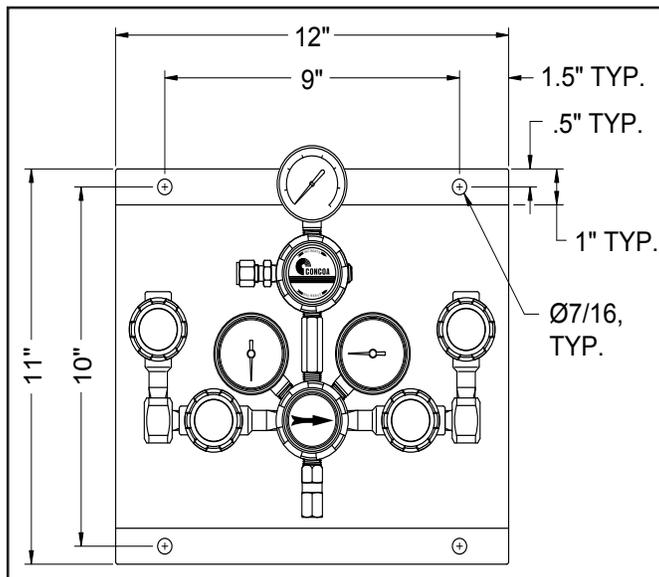

Figure 3
- As illustrated in Figure 3, the 619 is secured to a panel that has mounting holes located at each corner.
4. As illustrated in Figure 3, the 619 is secured to a panel that has mounting holes located at each corner.